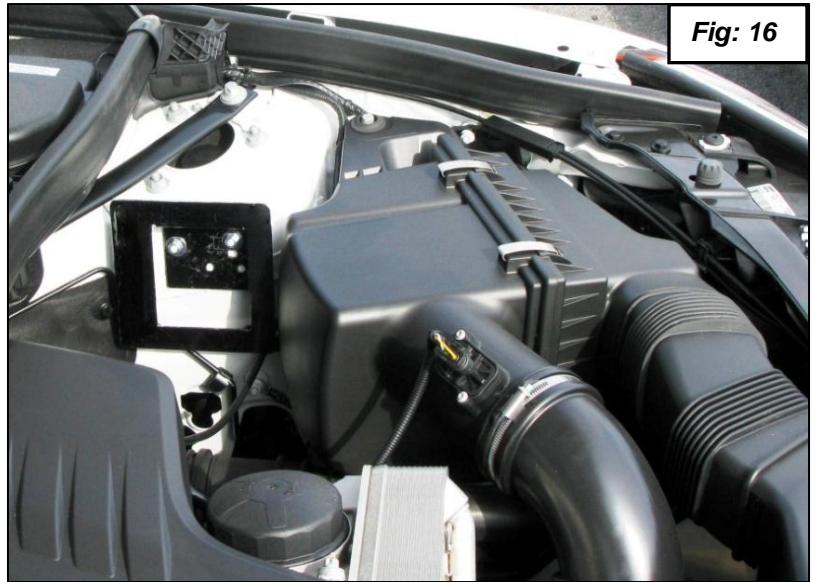

Fig: 16
23. Follow steps 14 thru 16 to mount the bracket for the DinanTronics box. See figure 16. The mounting holes in the bracket are slotted, adjust for best fit.